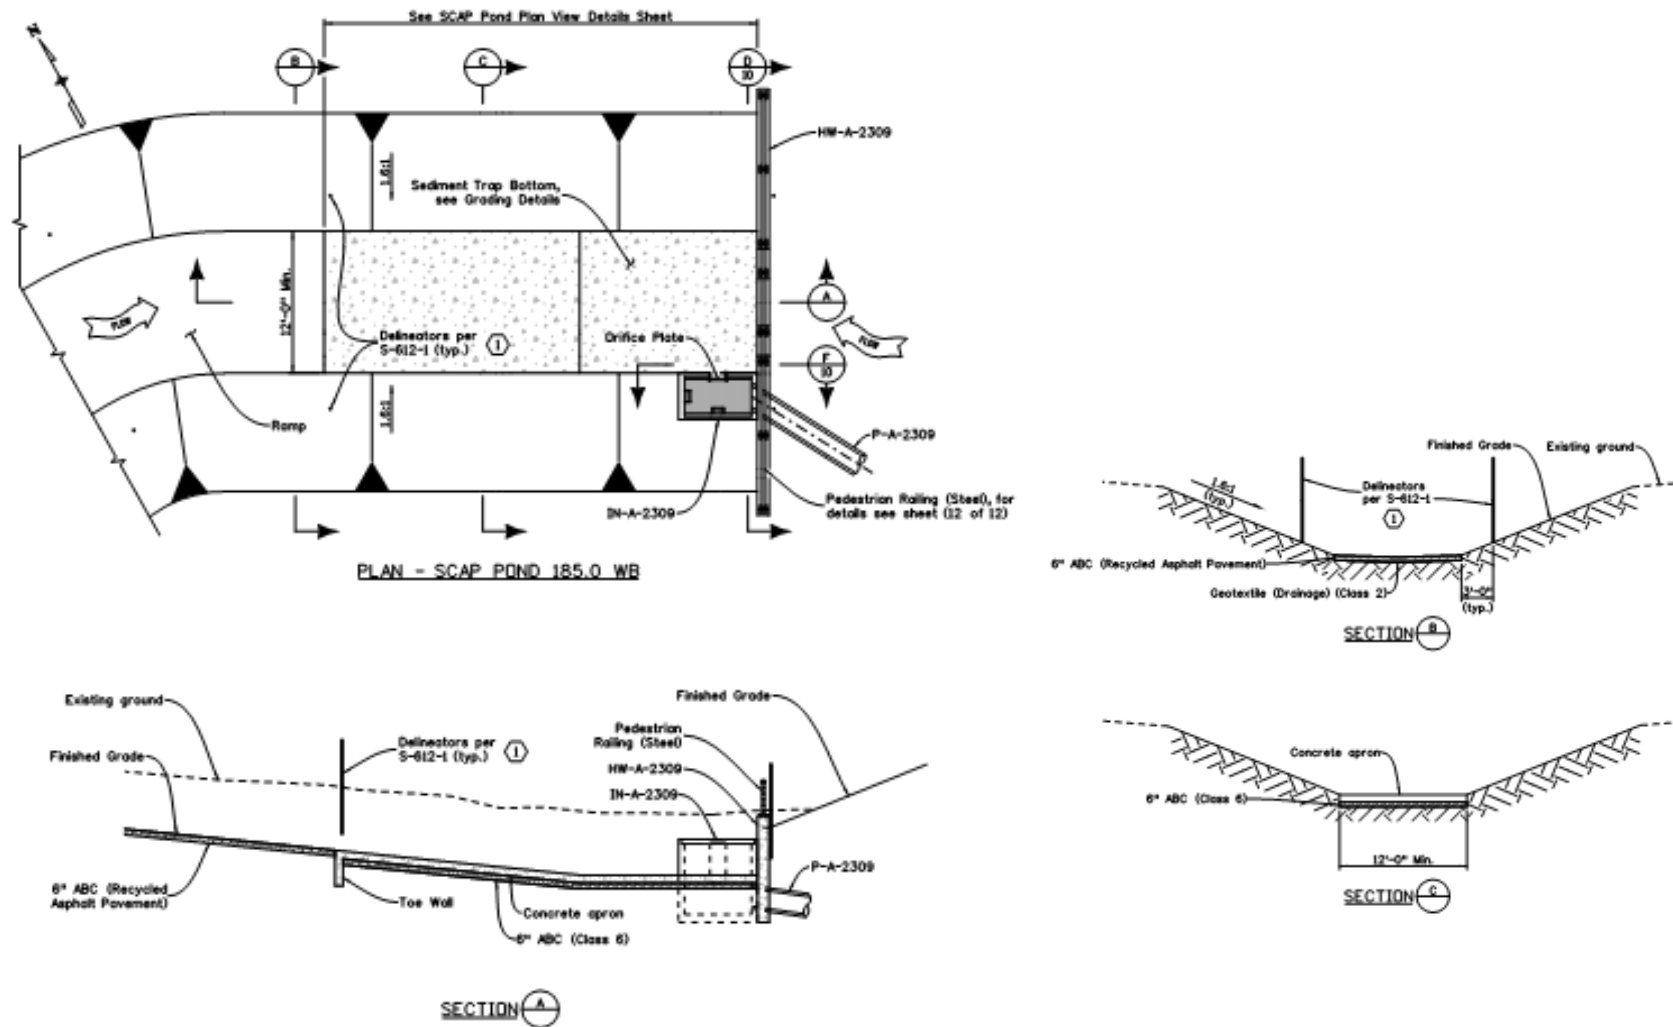

Figure 3.3. Example of a West Vail Pass Curbed Sediment Basin
- **Hard-sided basins:** One design option (Figure 3.3), includes concrete curbs and apron, concrete push wall with V-shaped center (to allow water to drain better) and gabion basket outlet (to slow clogging). The minimum interior width of these basins is 12 feet, to allow a 10-foot loader room to work in them. Sides above the curbs are likely to be soft, but curbs and apron will guide the equipment operator to horizontal and vertical limits of the basin. **Access:** These basins have delineators at the start of the concrete apron and either delineators or large boulders at the entry corners. Since the entry is soft, look for the base of the delineator or boulder for a guide or where to stop digging.
- **Infiltration:** Some basin design options include a pervious cutout, or a 4-foot-wide slot in the middle of the push wall apron (**Figure 3.3, Plan View**). Most water flows through the outlet, but the last few inches may not. The remaining water seeps into the ground. Over time, fine sediment will clog the cutout. Existing basins with soft sides and bases also allow for some infiltration. Where possible, remove the fines layer on the bottom of soft-based basins during cleanout. Optimally, basins with infiltration would be inspected annually after sediment is removed. If water remains, that basin would be added to the next year's sediment cleanout contract to use toothed equipment (e.g., backhoe) to scarify or rip the underlying material and to remove fines that a loader cannot. Estimated time between scarifying is estimated to be 3 years. However, annual inspections will provide more accurate timing for individual basins. **Access:** see access for different basin types.